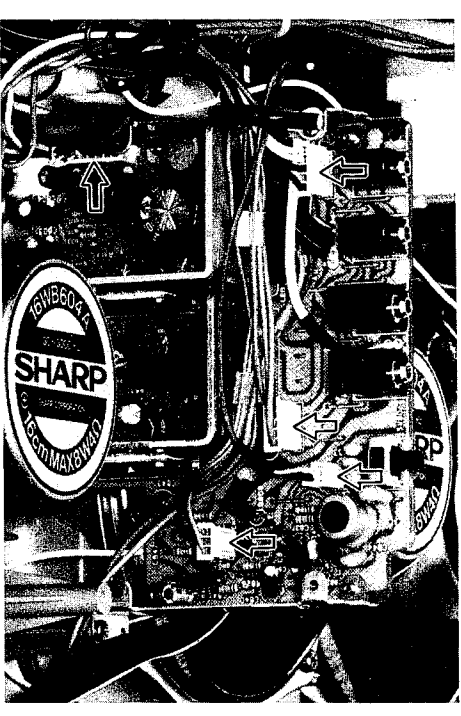

Figure 6-1
1. Remove five sockets at the power amplifier P.W.B. See Fig. 6-1.